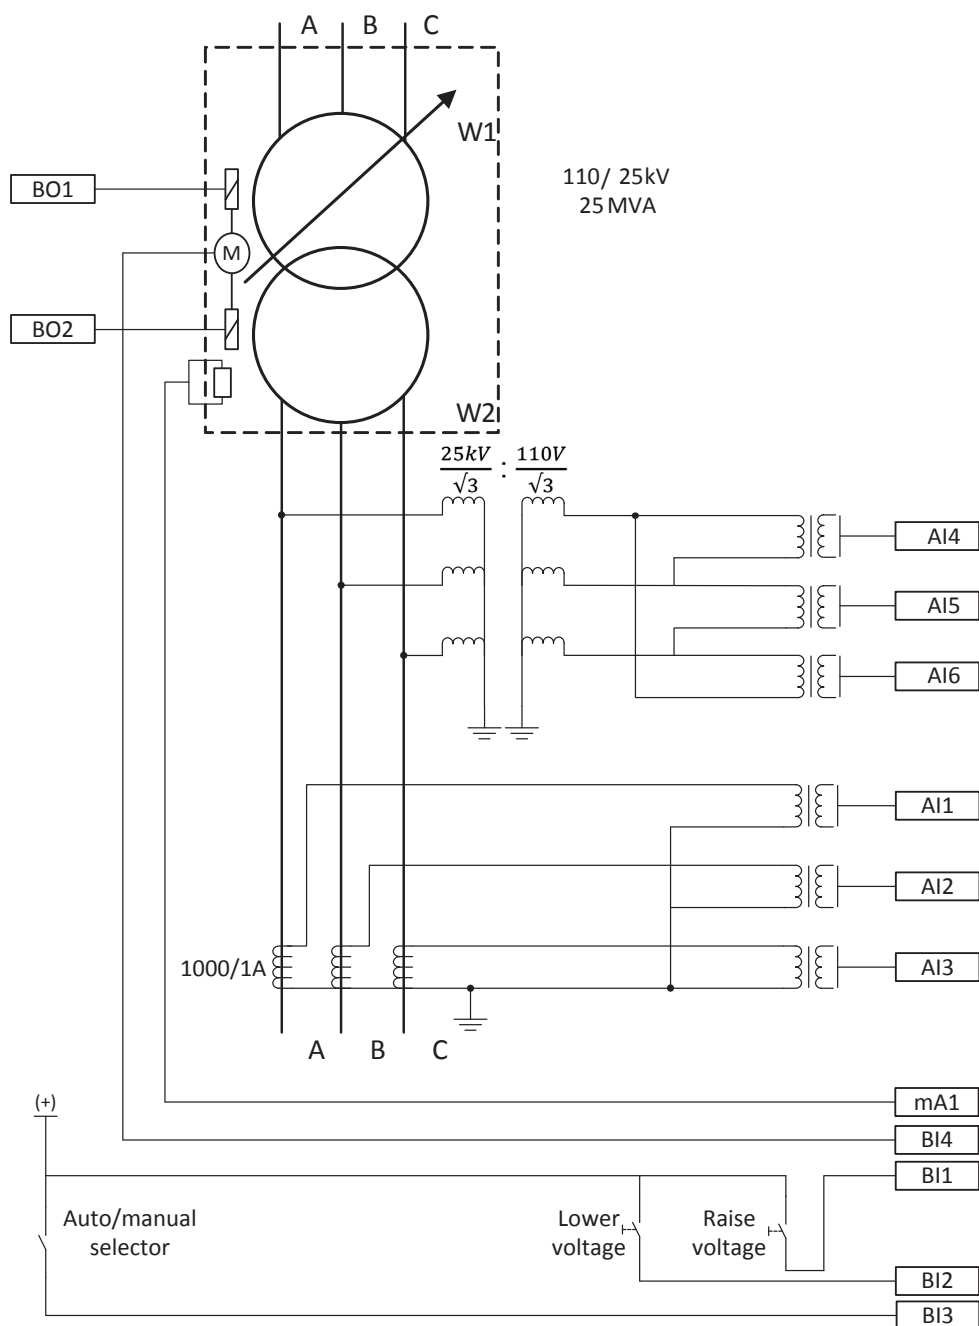

Figure 21: Relay 1 interfaces and CT/VT connections for TR1 in example case 1
Figure 21 shows the connection details of the relay's analog inputs (AI), binary inputs (BI), milli-Ampere inputs (mA) and binary outputs (BO) for example case 1.